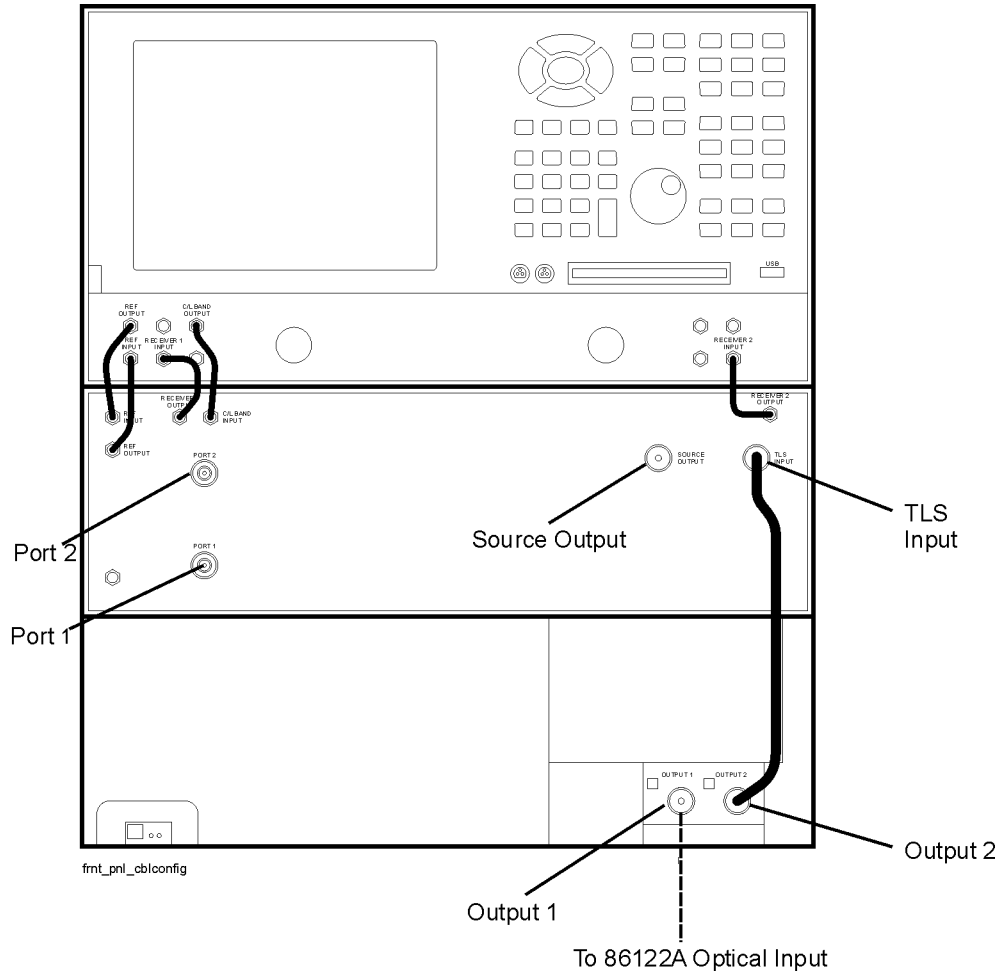

Figure 1 Front Panel
- 7 On the front panel, connect the 40 cm insulated patchcord between TLS Output 2 and the TLS Input as shown in Figure 1.